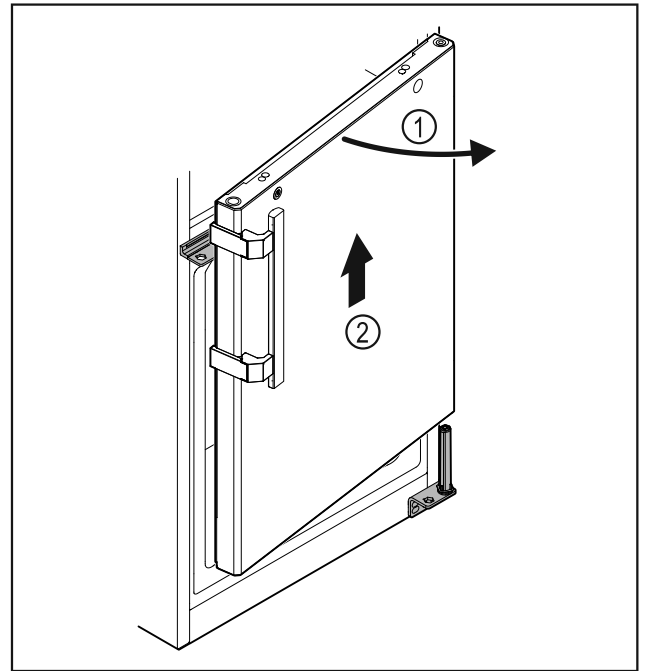

Fig. 33
- ▶ Open the door Fig. 33 (1) slightly, lift it straight up by around 200 mm and take it off Fig. 33 (2).